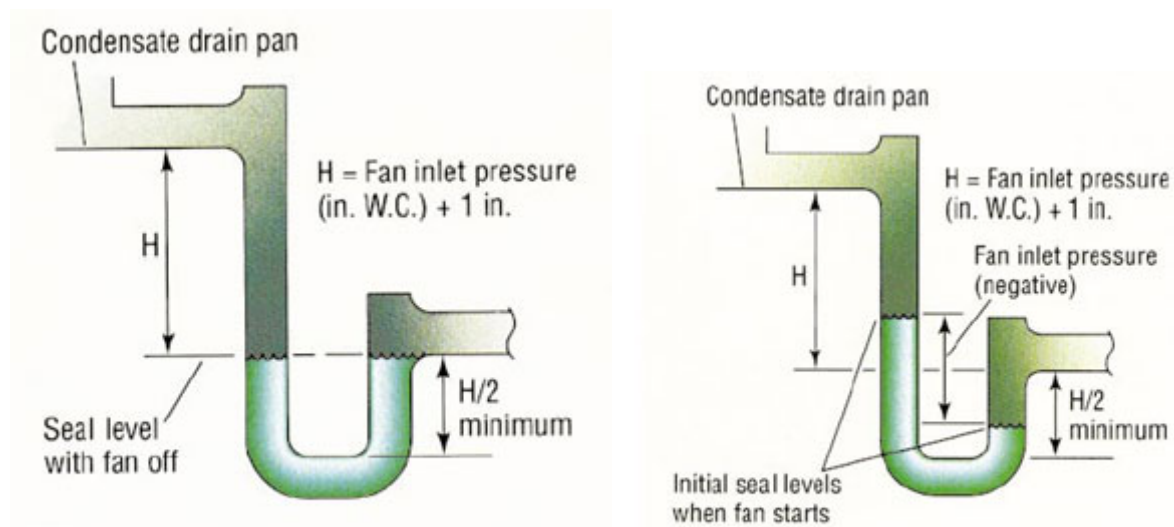

Figure 1 : Trap for draw-thru unit, fan off. Figure 2 : Trap for draw-thru unit, fan just started.
**Figure 1** shows the necessary dimensions of a trap on a draw-thru unit and the maximum level of condensate that can exist in such a trap with the fan off. The recommended safety factor of 1 in. added to the casing pressure is a reasonable balance between the need to account for unanticipated increases in that (negative) pressure and the practical need to keep the total trap depth ( $L$ ) to a minimum, especially on pad-mounted equipment. Many traps are improperly installed because dimension “ $L$ ” was not taken into account in mounting the air handler high enough to accommodate the trap.